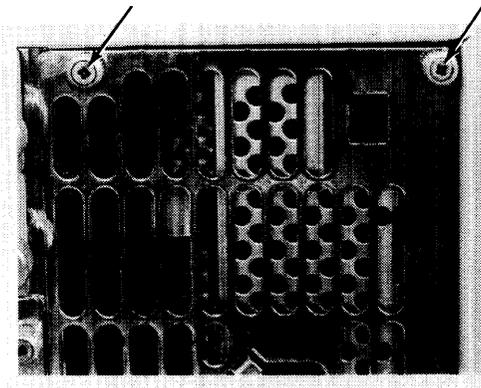

Figure 2-5. Power Supply Access Cover Screws
1. Unscrew the two captive thumbscrews holding the power supply access cover in place. Refer to Figure 2-5.